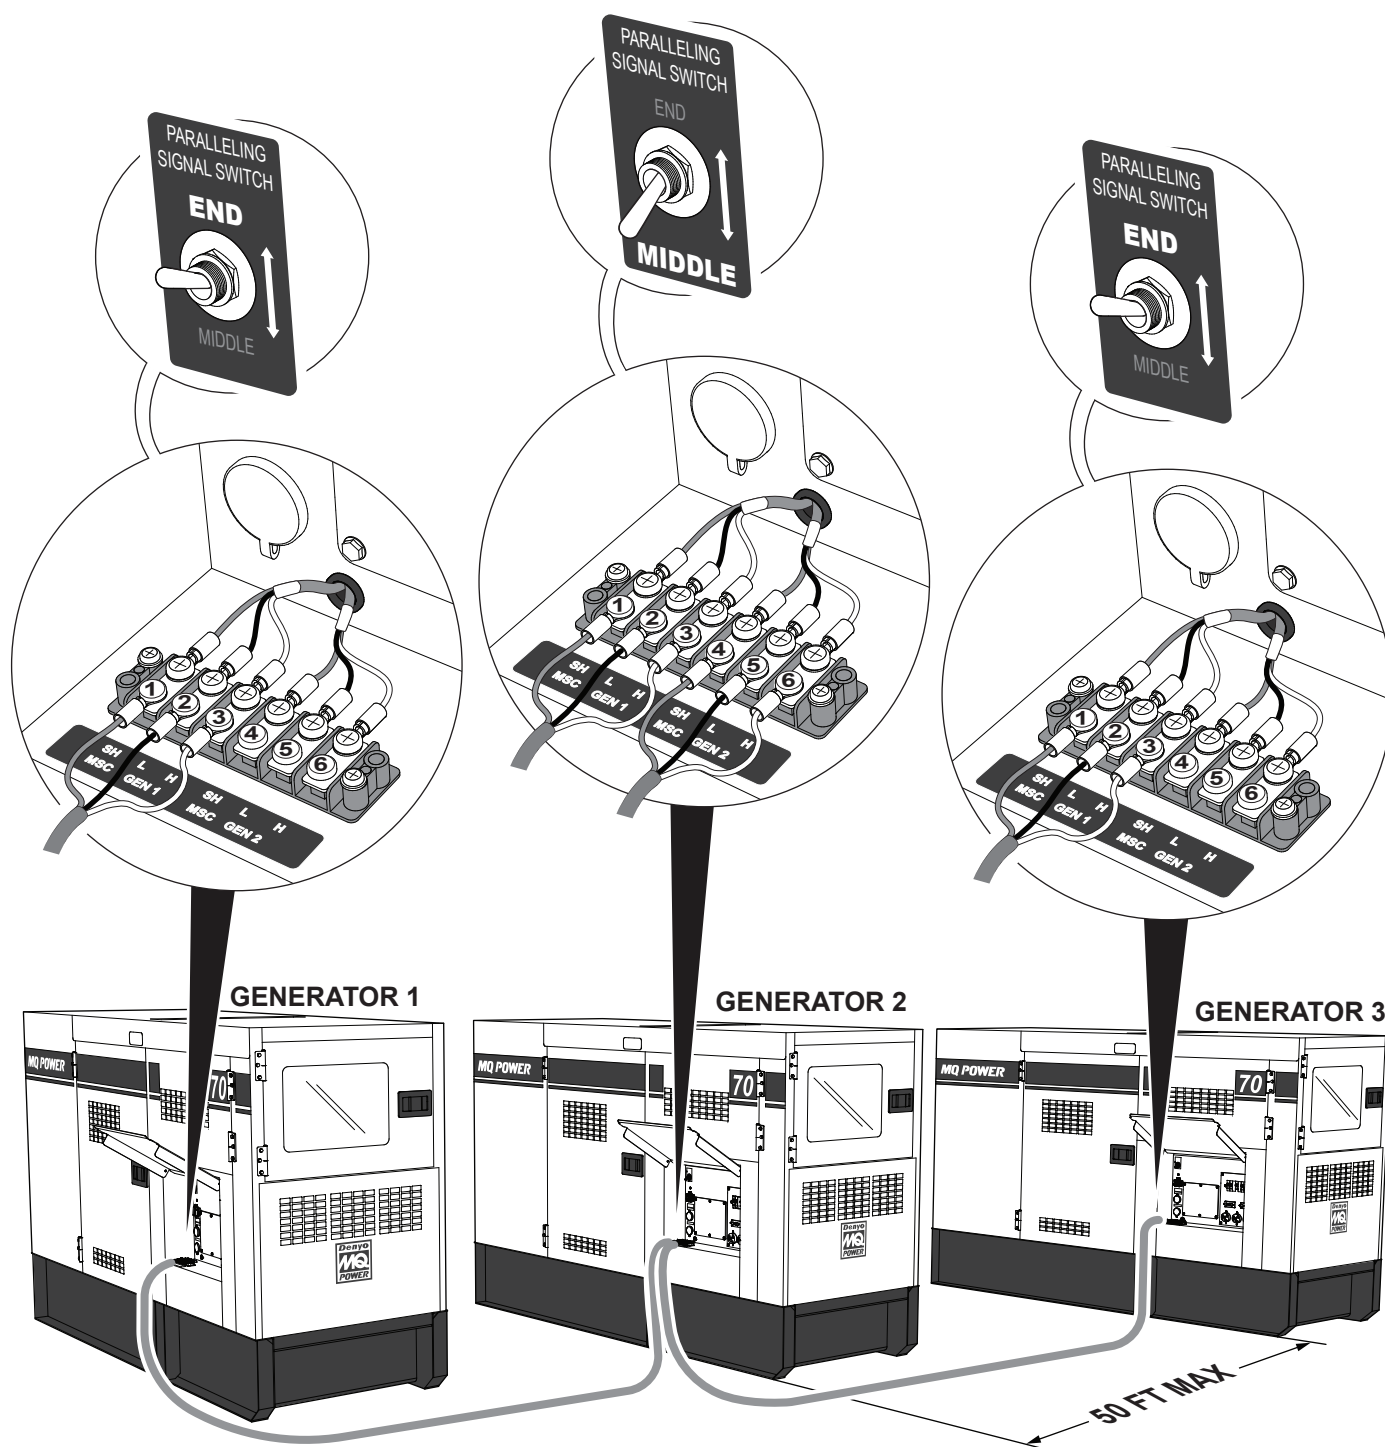

Figure 67. MSC Communication Cable Connections (Three Or More Generators)
1. Make sure the spacing between each generator output terminal panel does not exceed **50 ft. (15.14 m)**. Refer to Figure 67.
3. Connect the **three wires** from the MSC cable between the generators in accordance with Figure 67 and Table 15 via the 6-position terminal block located on the output terminal panel.